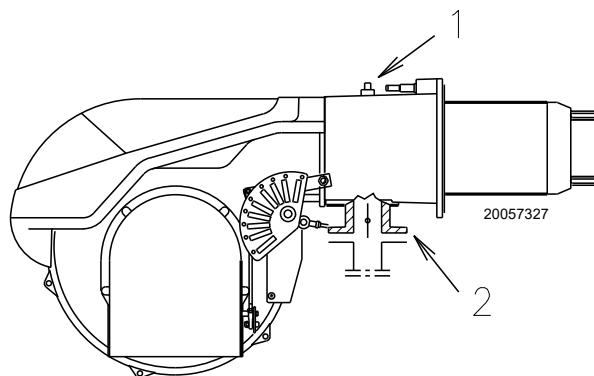

Fig. 21
Gas pressure measured at test point 1)(Fig. 21 on page 24), with:
Pressure loss at gas butterfly valve 2)(Fig. 21 on page 24) with maximum opening: 90°.
- subtract the combustion chamber pressure from the gas pressure measured at test point 1)(Fig. 21).
Gas pressure at test point 1)(Fig. 21) = 17.7 mbar
To calculate the required gas pressure at test point 1)(Fig. 21), set the maximum modulating output required from the burner operation:
- Read, on the right (column 1), the pressure at the test point 1)(Fig. 21).
pressure required at test point 1)(Fig. 21).